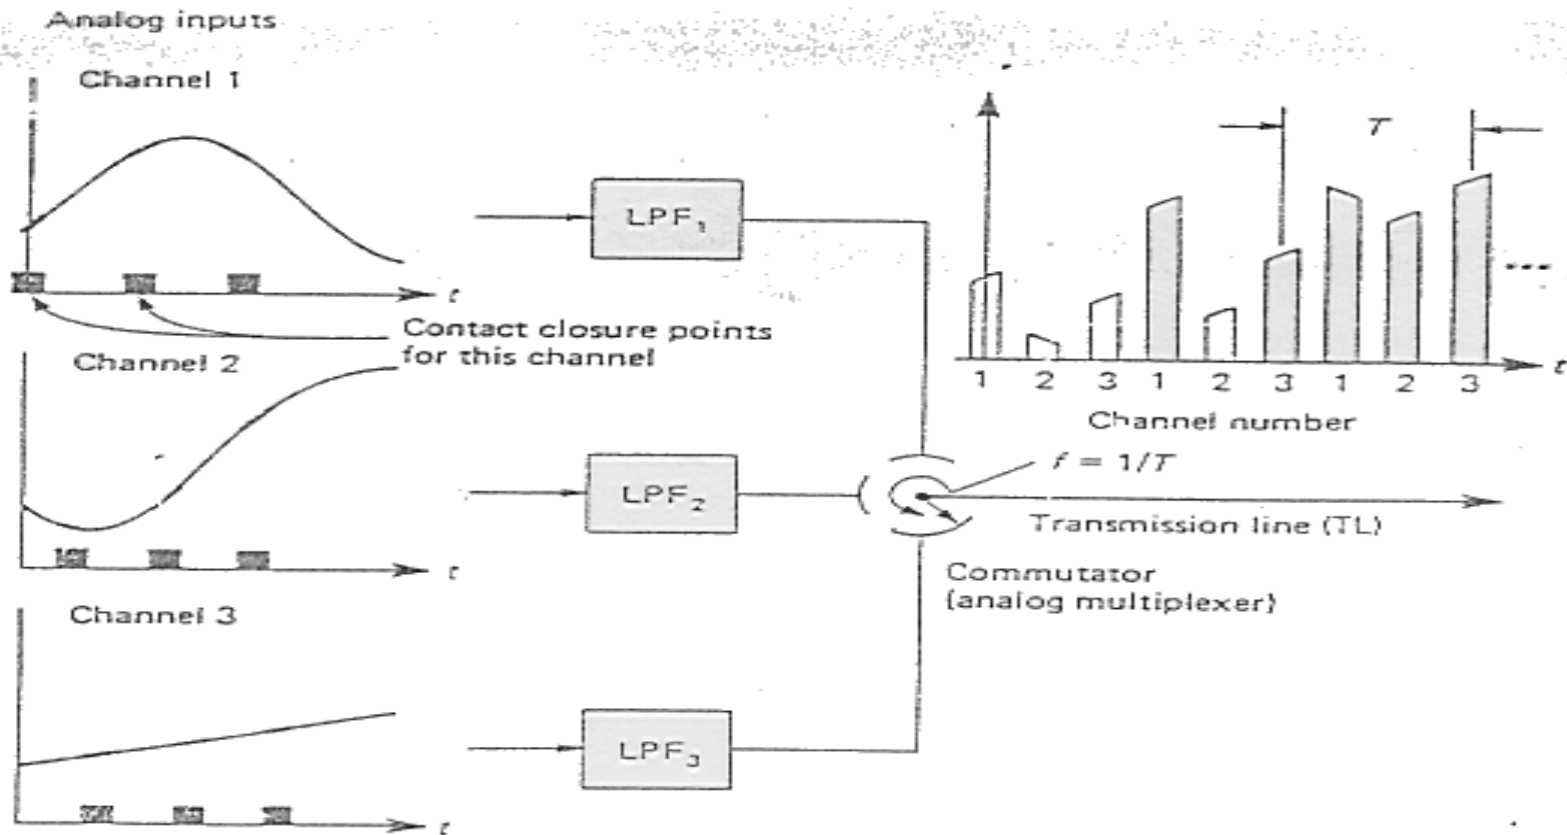

Figure 11-6. Time-division multiplex of three information sources.
- In the three-channel multiplexed PAM system of Figure 11-6, each channel is filtered and sampled once per revolution (cycle) of the commutator.
- Consequently, the channel of highest cutoff frequency determines the commutation rate for the system of Figure 11-6.
- For the TDM system of Figure 11-6, the multiplexing must proceed at